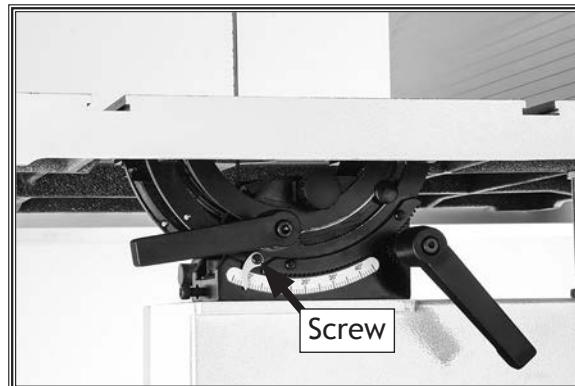

Figure 110. Location of screw that secures table tilt pointer.
4. Loosen Phillips head screw that secures table tilt pointer (see Figure 110), adjust pointer to "0" on scale, then retighten screw.